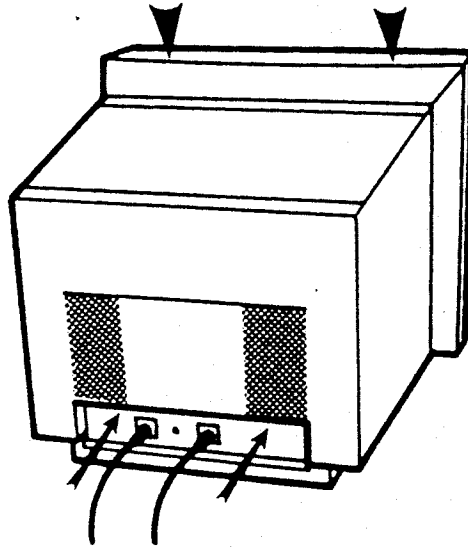

Figure 1
1. Remove the 2 screws at the rear which secure the cover and apply pressure to the two places on the top of the unit indicated by arrows in figure 1.